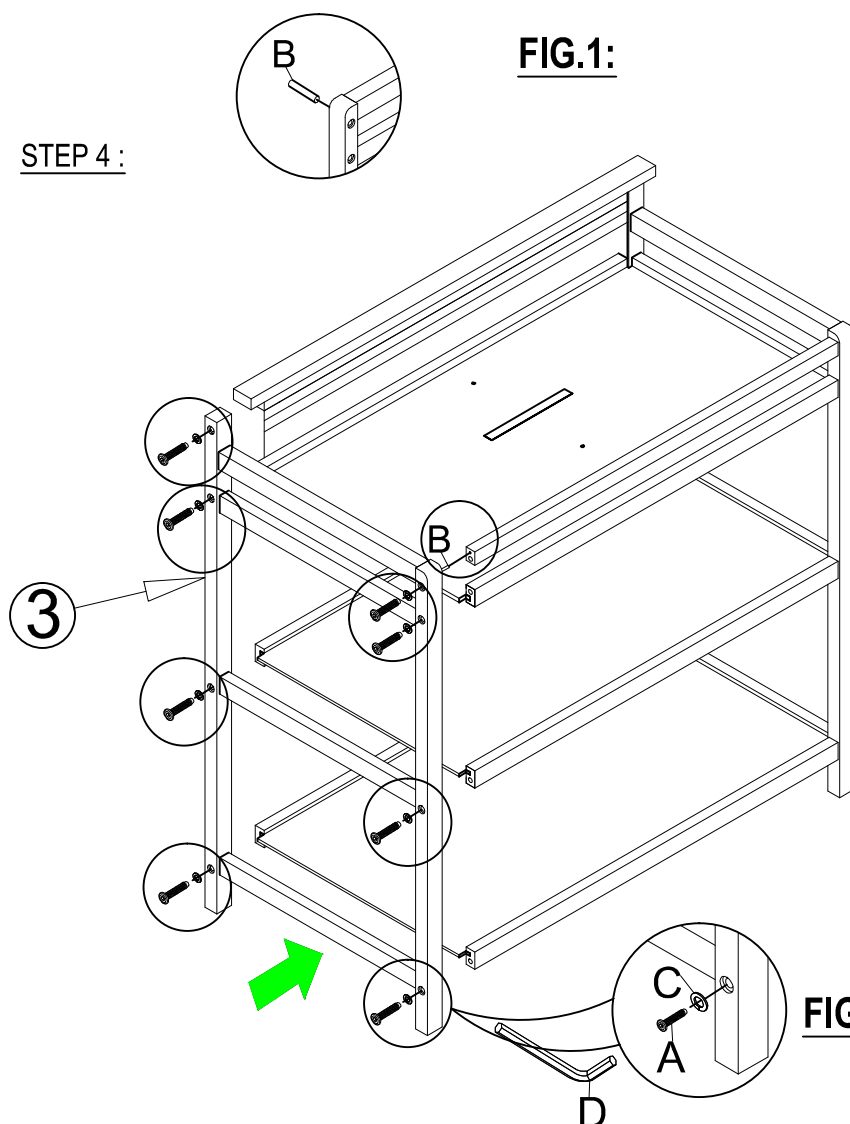

FIG.2:
Attach 1 pc. of Metal Pin (B) to Right Side frame (2) as shown in FIG.2.
Assembly all to Left side frame (3) by using Allen bolts (A) and Spring washer (C) as shown in FIG.2.